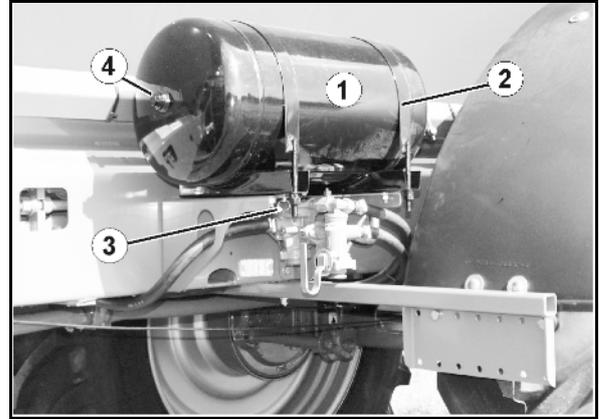

Fig. 125
2. Unscrew the drain valve (Fig. 125/3) from the air reservoir and clean the reservoir if there are signs of dirt.